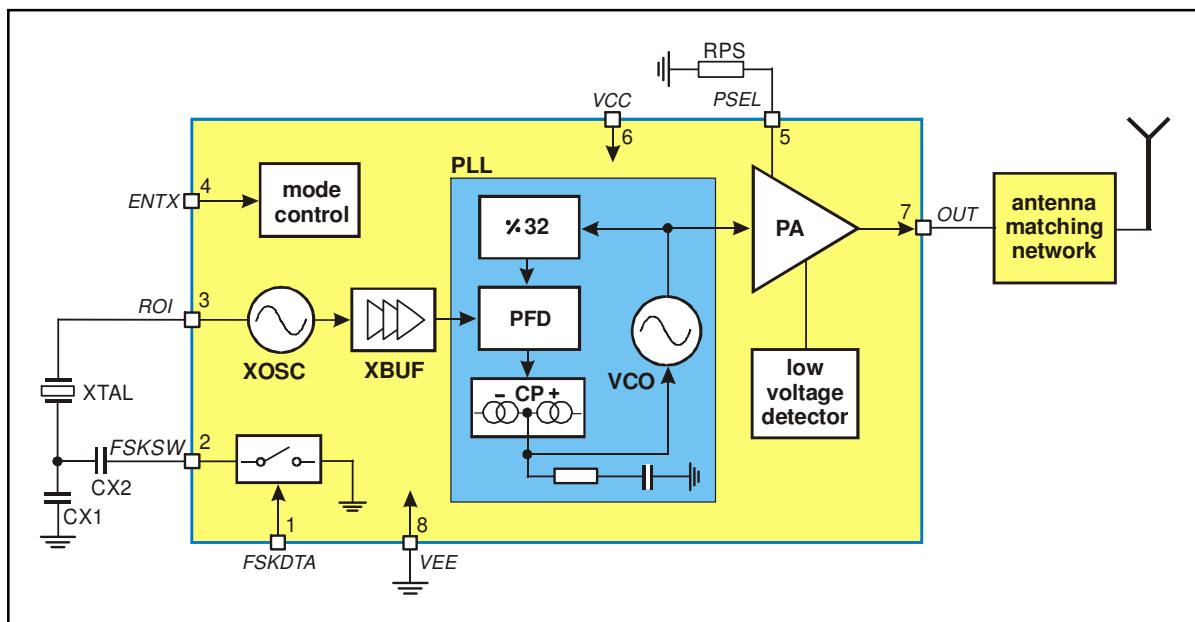

Fig. 1: Block diagram with external components
As depicted in Fig.1, the TH72031 transmitter consists of a fully integrated voltage-controlled oscillator (VCO), a divide-by-32 divider (div32), a phase-frequency detector (PFD) and a charge pump (CP). An internal loop filter determines the dynamic behavior of the PLL and suppresses reference spurious signals. A Colpitts crystal oscillator (XOSC) is used as the reference oscillator of a phase-locked loop (PLL) synthesizer. The VCO's output signal feeds the power amplifier (PA). The RF signal power  $P_{out}$  can be adjusted in four steps from  $P_{out} = -12$  dBm to +9.5 dBm, either by changing the value of resistor RPS or by varying the voltage  $V_{PS}$  at pin PSEL. The open-collector output (OUT) can be used either to directly drive a loop antenna or to be matched to a 50Ohm load. Bandgap biasing ensures stable operation of the IC at a power supply range of 1.95 V to 5.5 V.